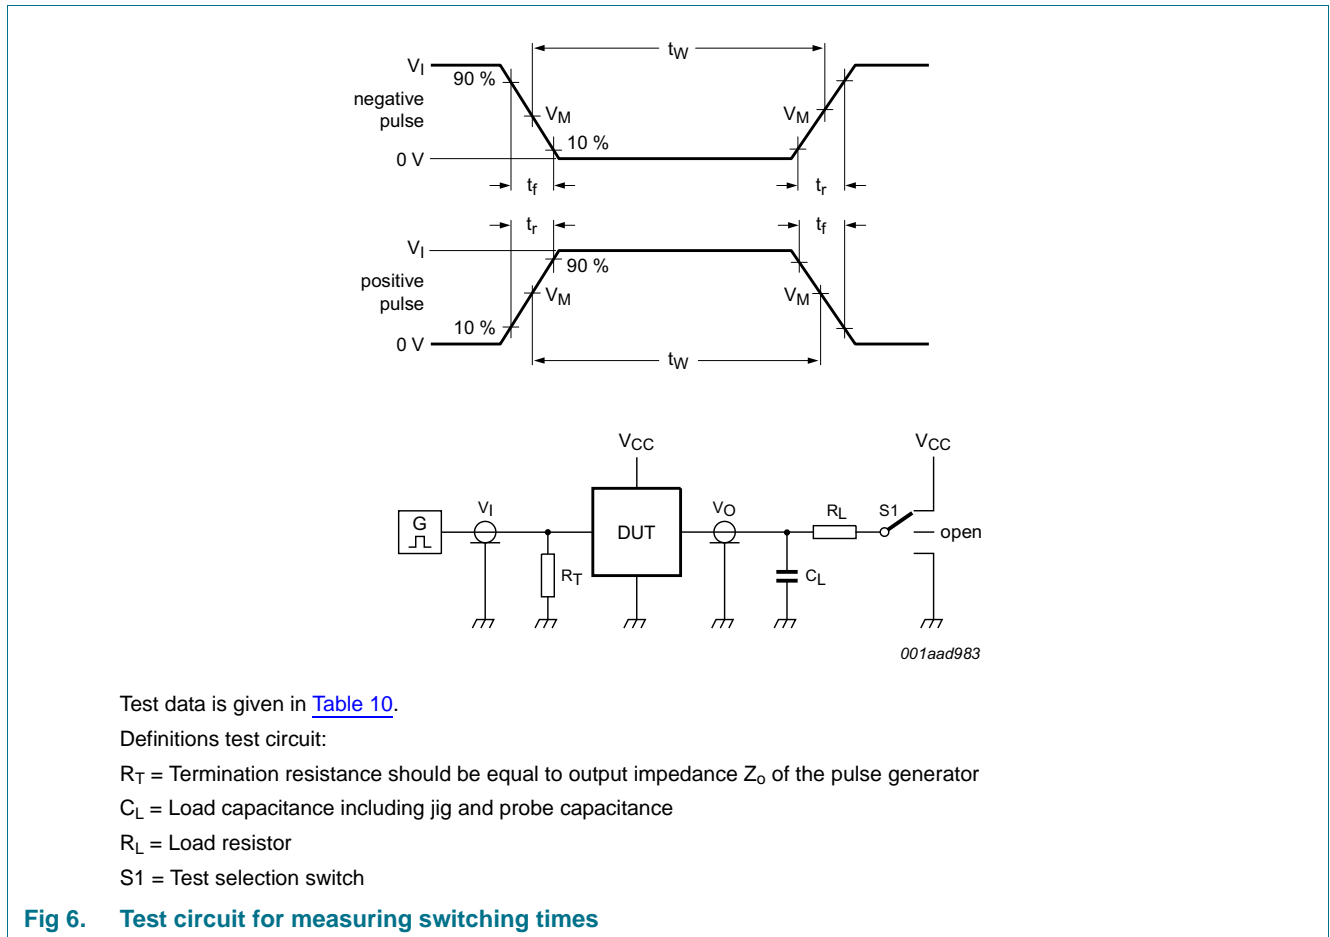

Fig 6. Test circuit for measuring switching times
GND = 0 V. For test circuit see Figure 6.
*GND = 0 V. For test circuit see Figure 6.*